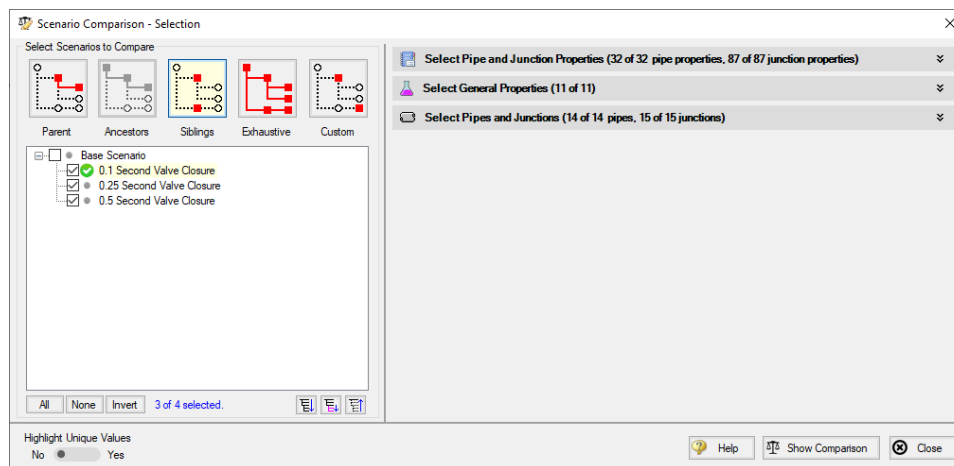

Figure 8: Scenario Comparison Tool - Selection window
3. In the Scenario Comparison - Selection window (Figure 8), select the Siblings option.